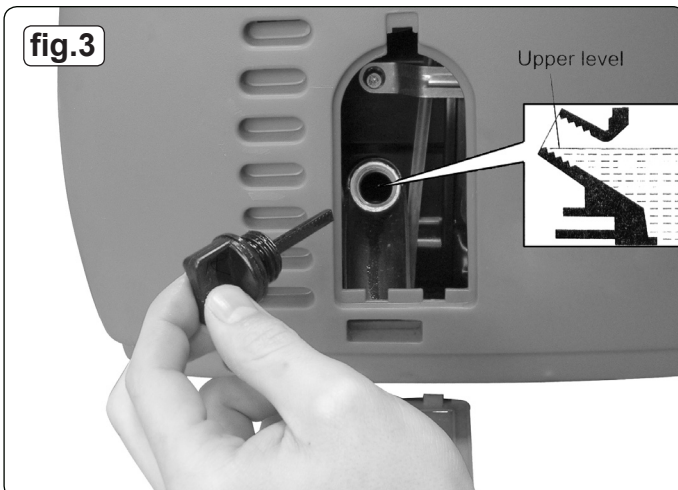

fig.3
- 3.1.5 Visually inspect the oil level regularly. Take out the oil filler dipstick, clean and re-insert in the filler hole but do not screw it in. If oil level is below the end of the dipstick, refill with recommended oil, up to the top of the filler neck (fig.3).
4.1.4 Refill the oil reservoir with the recommended oil and check the oil level (fig.3).